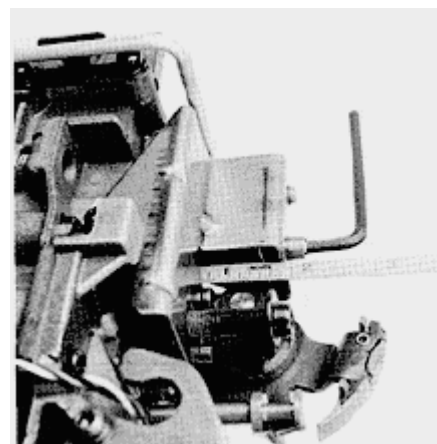

Figure 14
**Step 17** Line pressure adjustment. Measure the distance from the valve body to the inner edge of the adjusting screw with an accurate steel scale. **(See Figure 14)** To adjust distance, turn the adjusting screw in or out to obtain the following distances.
**Step 18** Throttle pressure adjustment **(See Figure 14)** Place the valve body on the bench so the throttle pressure assembly points up. Insert the 1/8" drill shank between the kickdown valve and the throttle pressure cam and adjust the throttle stop screw until it just touches the cam.
**Step 19** Using the three (3) long screws, attach the new filter supplied with the TRANS-SCAT®. Tighten screws to 35-in. lbs. Install the park rod back on the valve body and secure with the E-Clip. When reinstalling the valve body on the transmission, it may be easier to back the neutral safety switch out of the case. Verify that the valve body wiring harness is secure. Align and insert the parking rod into the case. Rotate the drive shaft until the parking rod engages the pawl. Align and seat the valve body on the case. Be sure that the manual lever and case connector are fully seated in the case. Also, be sure that the wiring harness is not pinched or kinked. Install and start the ten (10) valve body bolts, torque these bolts to 105-in. lbs. If you backed out the neutral safety switch, tighten it to 25-ft. lbs. Clean the oil pan and place a clean magnet on the small tab in the corner of the oil pan. Install a new pan gasket supplied with the kit and tighten the bolts to 13-ft. lbs. Check your drain plug if you have one and make sure it is tight.
**Step 20** Lower the vehicle but keep the rear wheels off the ground. Pour four (4) quarts of TCI® RTF, STF or Mopar ATF Plus Type 7176 into the transmission, start the engine and allow it to idle in neutral. Check the fluid level and fill to the "add" mark. Shift the transmission through all four (4) gears several times. Recheck the fluid level and make sure it is at least at the "add" mark. Drive the vehicle for a few miles to thoroughly warm the fluid. With the engine running and the shifter in neutral, make sure that the level is now between the "add" and the "full" marks. **DO NOT OVERFILL!** This will cause foaming and overheating.